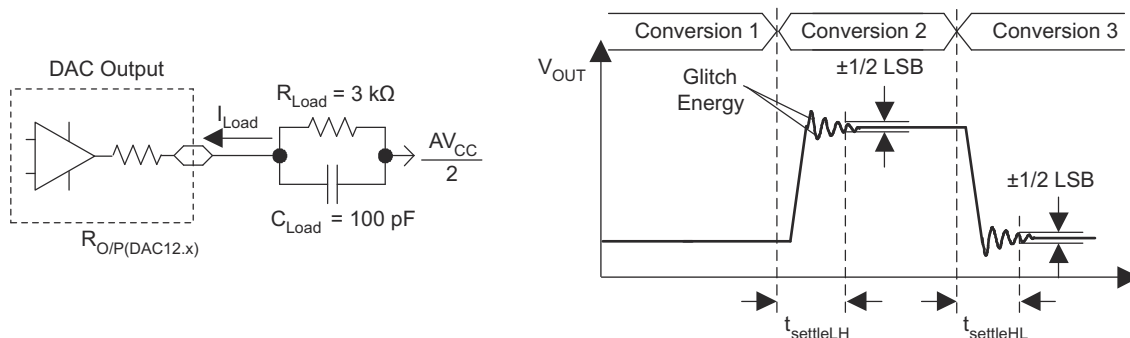

Figure 8-45. Settling Time and Glitch Energy Testing
- (1) R_{Load} and C_{Load} are connected to AV_{SS} (not AV_{CC}/2) in Figure 8-45.
- (2) Slew rate applies to output voltage steps ≥ 200 mV.